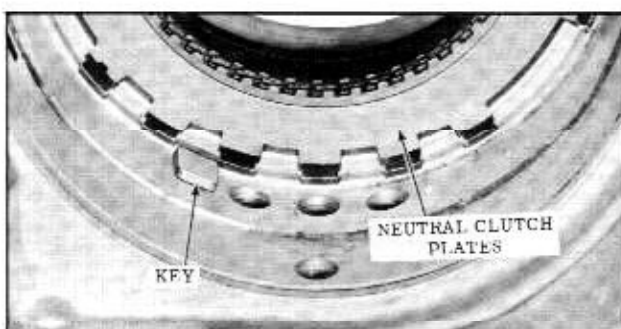

Figure 3-54 Neutral Clutch Key and Plates
16. Remove the neutral clutch drum key from the transmission case. (Fig. 3-54)
17. Remove the neutral clutch plates (4 drive composition and 4 driven steel) and clutch backing plate from transmission case. (Fig. 3-54)